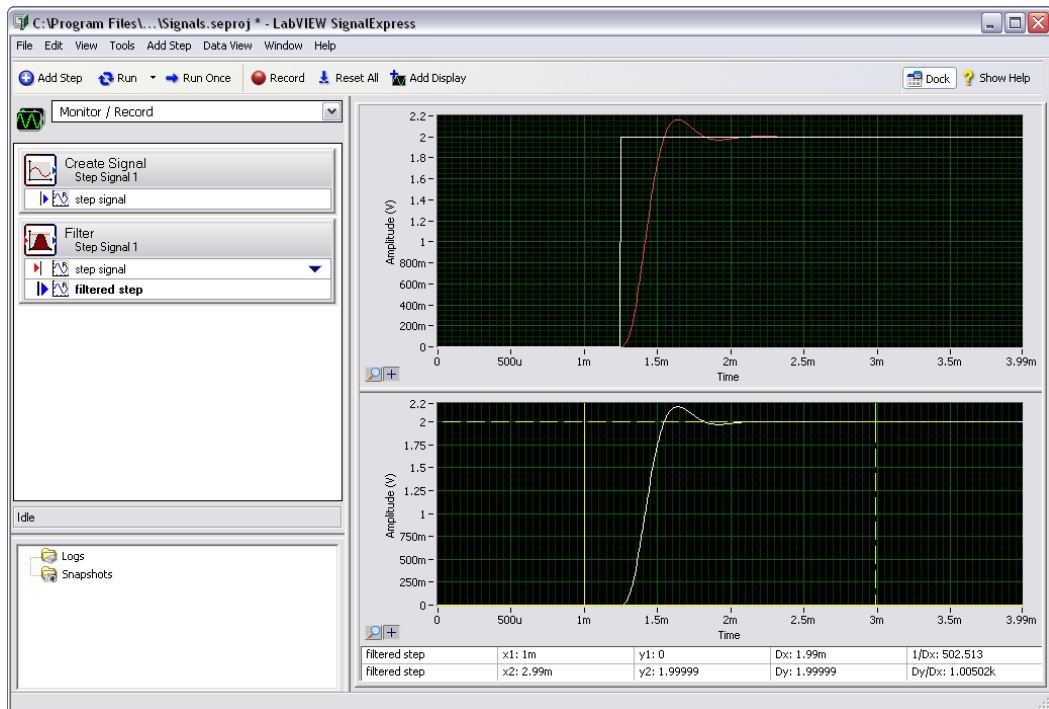

Figure 4-1. Signals.seproj
6. Right-click the new graph and select **Visible Items»Cursors** from the shortcut menu to display two interactive cursors, as shown in Figure 4-1.